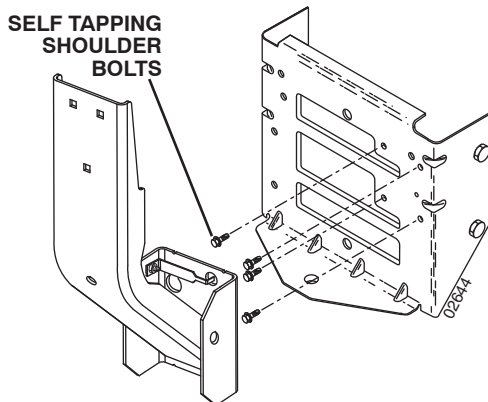

Fig. 1B
NOTE: If your tractor already has four (4) shoulder bolts installed on the rear drawbar, simply hang the mounting bracket, on the bolts. Discard included shoulder bolts and disregard Fig. 1B.
SELF TAPPING SHOULDER BOLTS (See Fig. 1B)